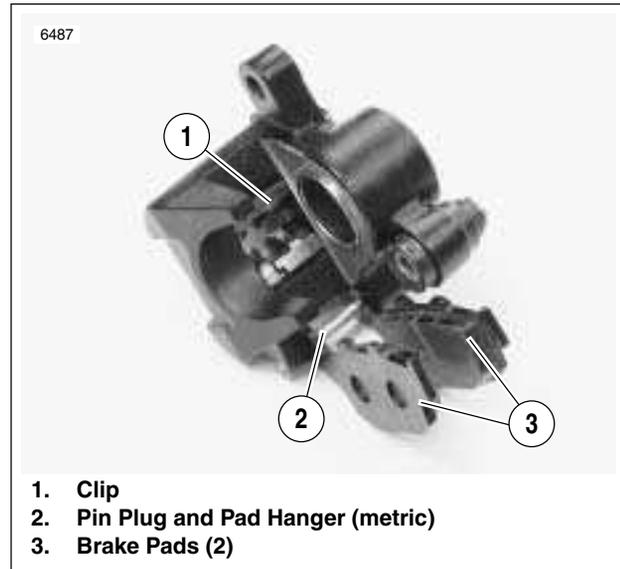
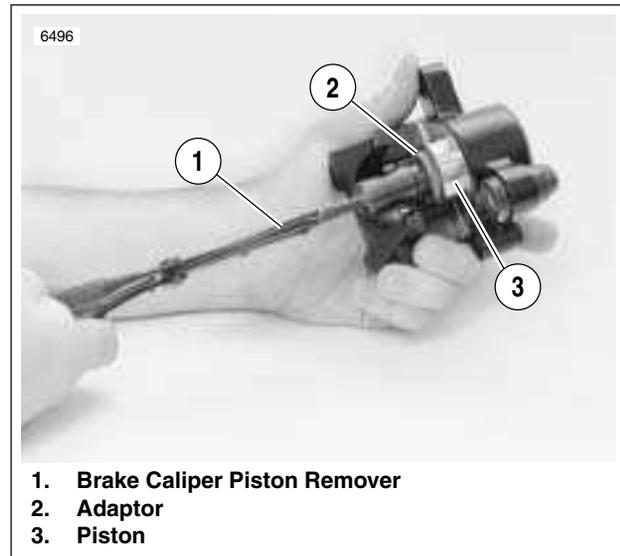

Figure 2-46. Brake Pads
Figure 2-47. Removing Rear Brake Caliper Piston
2. See Figure 2-46. Remove clip (1) from caliper body.
3. See Figure 2-47. Remove piston (3) using BRAKE CALIPER PISTON REMOVER (1) (Part No. B-42887) with adaptor (2).
1. See Figure 2-46. Place clip (1) inside caliper body as shown.
2. See Figure 2-47. Install pistons and O-rings.
- c. Install piston (3) inside caliper body.
3. See Figure 2-46. Install brake pads (3) using pad hanger and pin plug (2).